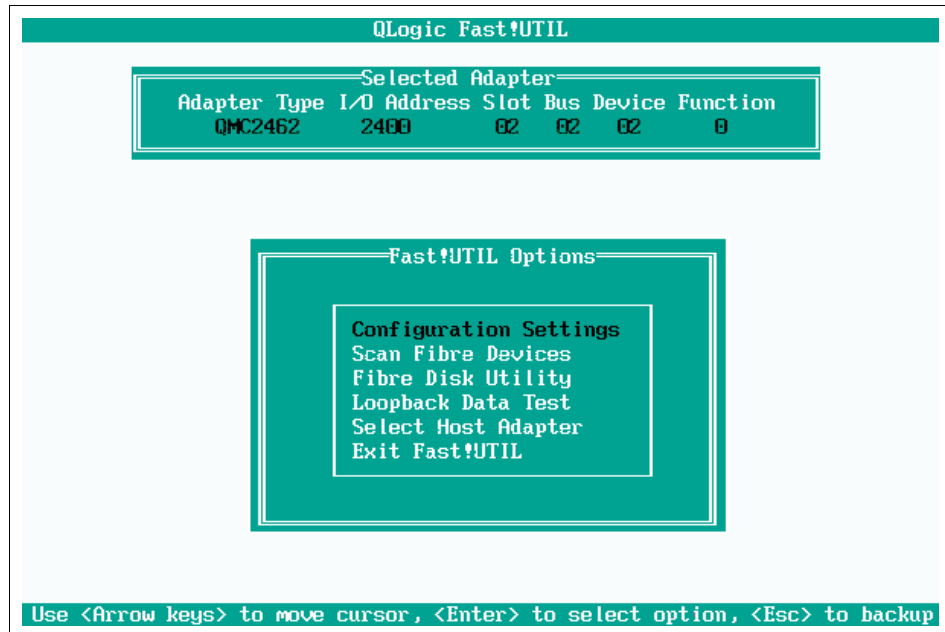

Figure 9-3 Configuration Settings window
1. Select 0 ID and press Enter. You will see a window similar to Figure 9-3.